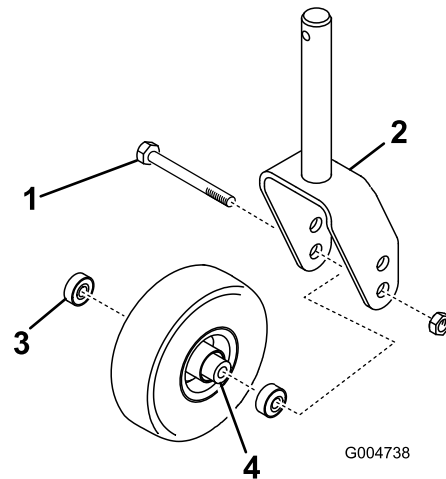
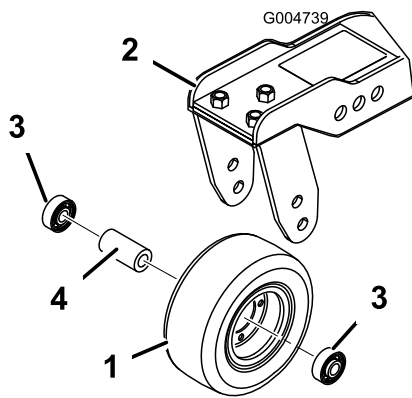

Figure 79
Figure 80
1. Remove the locknut from the bolt holding the castor wheel assembly between the castor fork (Figure 79) or the castor pivot arm (Figure 80). Grasp the castor wheel and slide the bolt out of the fork or pivot arm.
- Remove the bearing from the wheel hub and allow the bearing spacer to fall out (Figure 79 and Figure 80). Remove the bearing from the opposite side of the wheel hub.